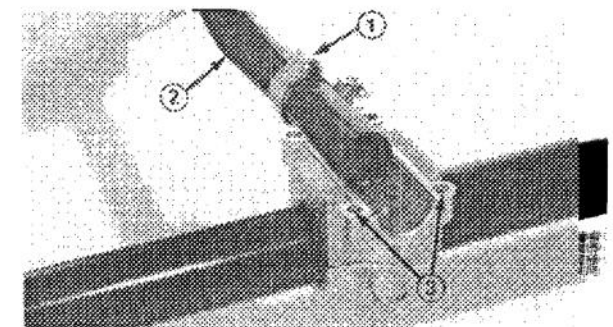
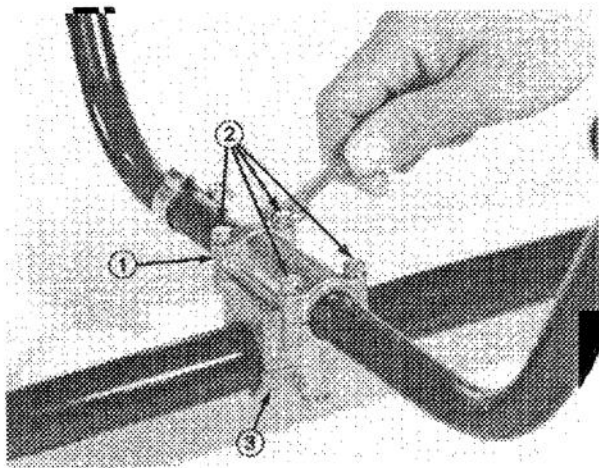

Figure 6
Figure 7
1. Remove four bolts securing upper handle bracket and remove bracket (Fig. 7).
2. Slide band onto R.H. handle (Fig. 6), install R.H. and L.H. handles into lower bracket, make sure spacers are aligned (Fig. 6) and install upper bracket (Fig. 7). Insert and tighten bolts to secure handles (Fig. 7).